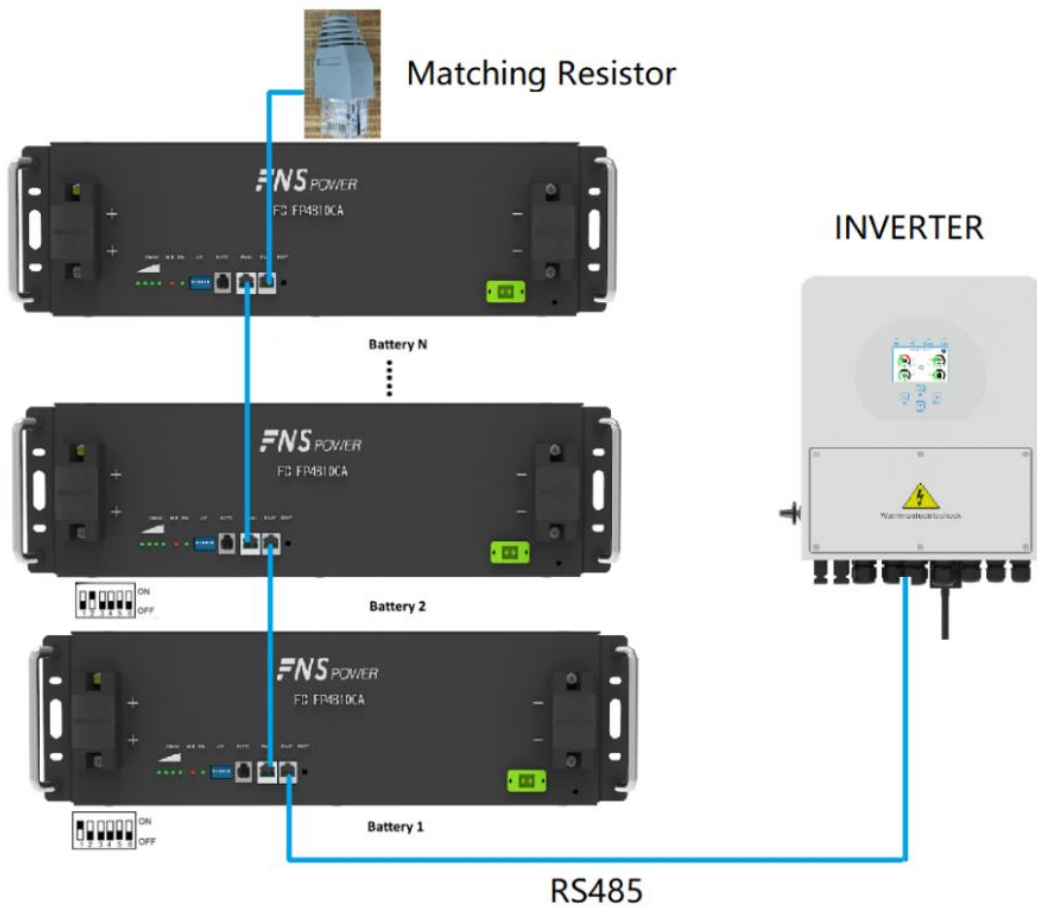

Figure 5-7: Multiple batteries connected to the inverter
2. As shown in Figure 5-7, connect the communication line (a standard RJ45 network cable) between the adjacent batteries.